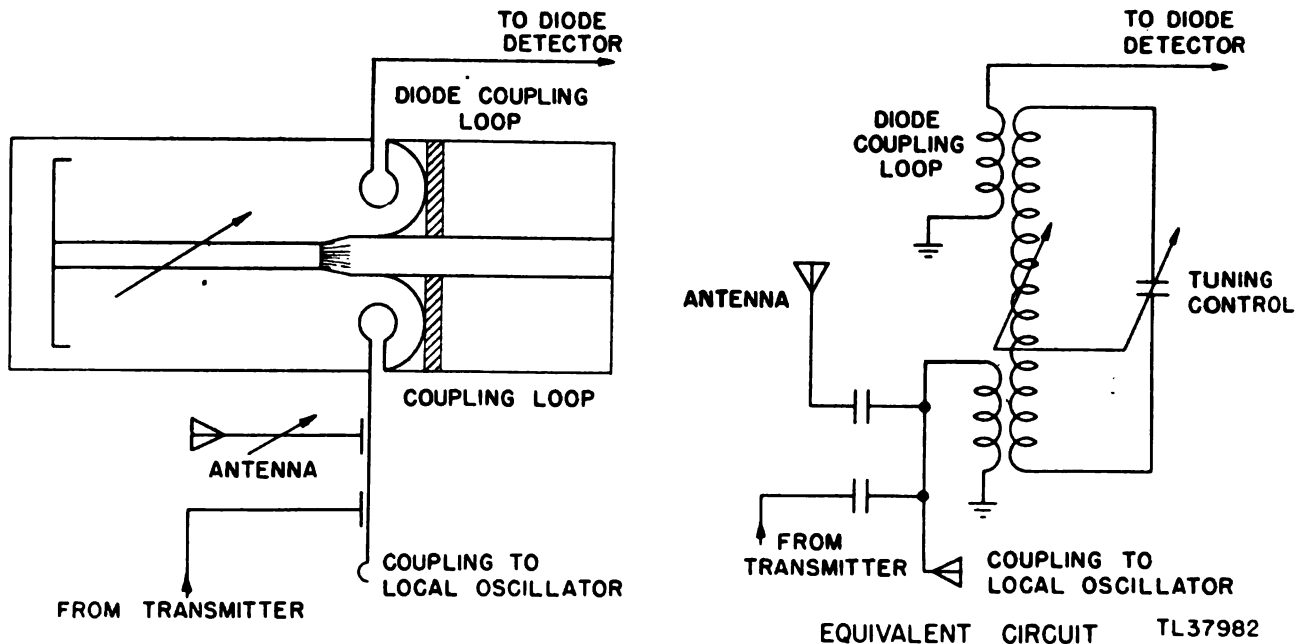

Figure 67. Variable line resonator, partial schematic and equivalent circuit.
**b. OPERATION.** The variable line resonator is essentially a parallel tuned circuit (fig. 67); that is, it is a coaxial line whose distributed capacitance (be-